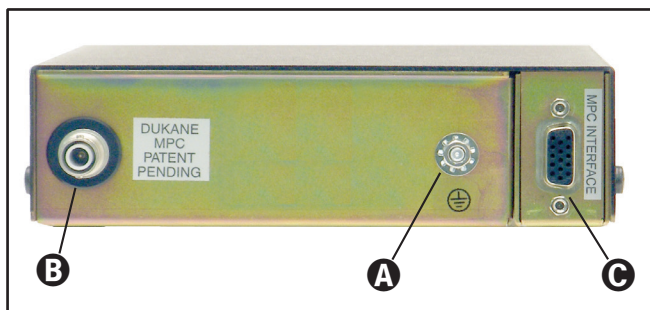

Figure 3-5 MPC Module Rear Connectors
Connect the other end of the cable to the MPC INTERFACE connector on the right rear of the MPC module. See Figure 3-5.
Refer to Figure 3-5 below. Complete these connections.
1. Earth ground - Connect one end of a user-supplied 14-Gauge ground wire to the ground connection at the rear of the MPC - **A** in Figure 3-5. Connect the other end of the wire to an earth ground potential at the electrical box that supplies power to the equipment (or to the equipment enclosure into which your system is installed).
2. U/S (ultrasonic) cable (Dukane P/N 200-479-XX - Order the correct cable length for your installation.) - Connect one end of the cable to the left rear U/S connector of the MPC module- **B** in Figure 3-5. The other end of the cable connects to J1 of the ultrasonic generator.
3. MPC Interface cable (Dukane P/N 200-1408-XX - Order the correct cable length for your installation.) - Connect one end of the cable to the right rear MPC Interface connector- **C** in Figure 3-5. The other end of the cable connects to the MPC INTERFACE connector on the ultrasonic generator.